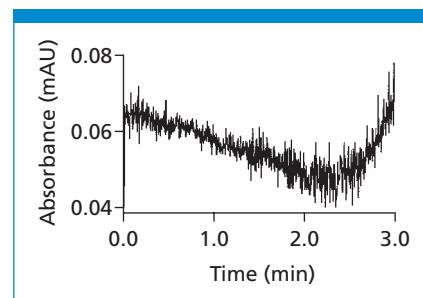
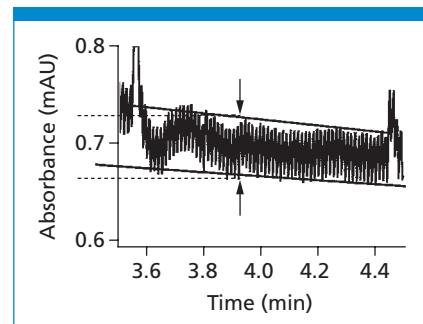

Figure 2: Baseline noise for a UV detector. See text for details.
Figure 3: How to measure baseline noise. See text for details.
An amplified chromatographic baseline typically looks more like the one shown in Figure 2 than that in Figure 1(b). In Figure 2, the noise contains more spikes, and the frequency is higher than in Figure 2. The baseline of Figure 2 looks pretty ugly until you look at the scale of the y axis.
For this particular detector — an ultraviolet (UV)-absorbance detector operating at 254 nm — the manufacturer specifies that the noise should not exceed 1×10^{-5} AU with a dry cell. To measure the noise, expand 1 min or more of baseline, as shown in Figure 3. Draw lines roughly parallel to the baseline, so that they barely touch the extremes of most of the noise. Measure vertically between the lines, as shown in Figure 3, and quantify this measurement using the appropriate y-axis scale. In the example of Figure 3, the dotted lines intersect the y axis at
approximately 0.665 and 0.725 mAU for a noise value of roughly 6×10^{-5} AU, so the detector in Figure 3 (not the same one used in Figure 2) exceeds the manufacturer's specifications, but the excessive noise may be a result of the mobile phase and pumping system, not the detector.
The run shown in Figure 2 was performed with solvent flowing, so I would expect it to be a bit noisier than a dry-cell run. Even so, the figure shows that the peak-to-peak noise generally falls within the manufacturer's specifications for this detector. Users can perform a dry-cell test by disconnecting the detector from the column and then blowing the
cell dry with nitrogen. Under these conditions, the drift shown in Figure 2 would probably be absent.
measurable. I used this type of in-process check to obtain the chromatograms shown in Figures 2 and 3.